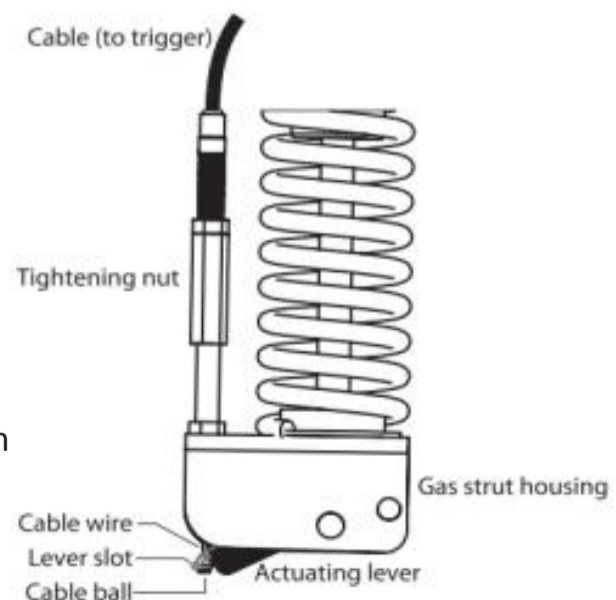

Figure 14.41: Cable assembly
1. If the chair does not tilt when trigger is pulled – the cable wire is too loose and needs to be tightened. To do so, remove the rubber sleeve above the gas strut housing that covers the adjustment nuts. Loosen the locknut first and turn the ‘tightening nut’ (shown in figure 14.41) so that more thread is showing above the nut. Check tilt function and if acceptable tighten locknut and refit rubber sleeve.